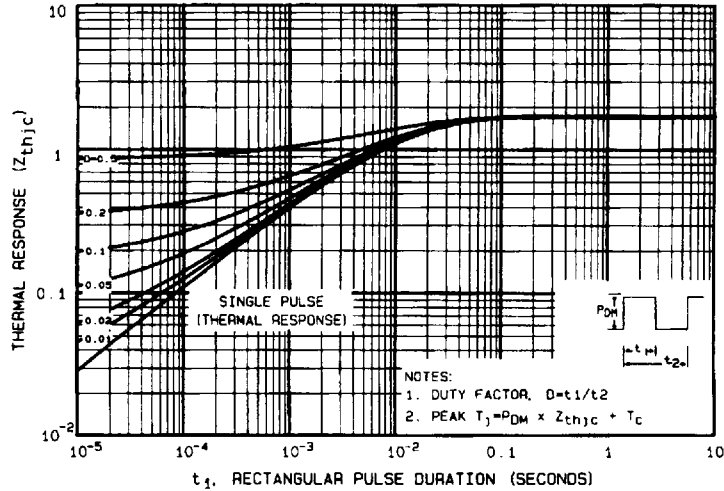

Fig. 11 — Maximum Effective Transient Thermal Impedance, Junction-to-Case Vs. Pulse Duration
- ① Repetitive Rating; Pulse width limited by maximum junction temperature. (see figure 11)
- ② @  $V_{DD} = -50V$ , Starting  $T_J = 25^\circ C$ ,